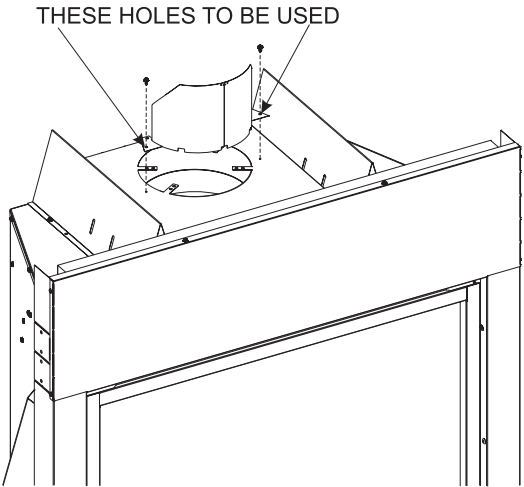

Figure 43
2. Attach to insulation box as shown in **Figure 43**.